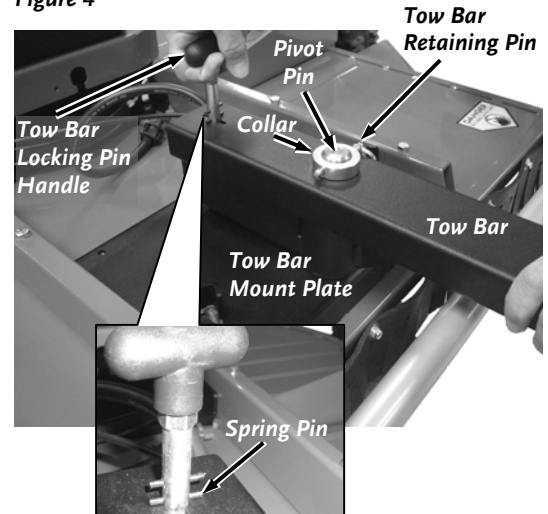

Figure 5
3. Pull the Handle of the Tow Bar Locking Pin up so its Spring Pins are above the Tow Bar and then twist the Handle 90° so the bottom Spring Pin rests on top of the Tow Bar (**Figure 5**).